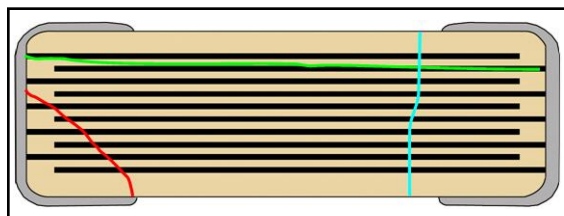

Figure 6. Red crack represents flex crack; green crack represents typical thermal shock crack; blue crack represents mechanical damage.
3. Does a Flex Crack always have the same crack signature? Answer – yes. There is a distinctive crack signature for board flex cracks – it always starts near the edge of the termination margin, and usually extends upwards toward the termination face. The flex crack signature is distinctly different than other crack signatures in MLCC's. (See Figure 6)